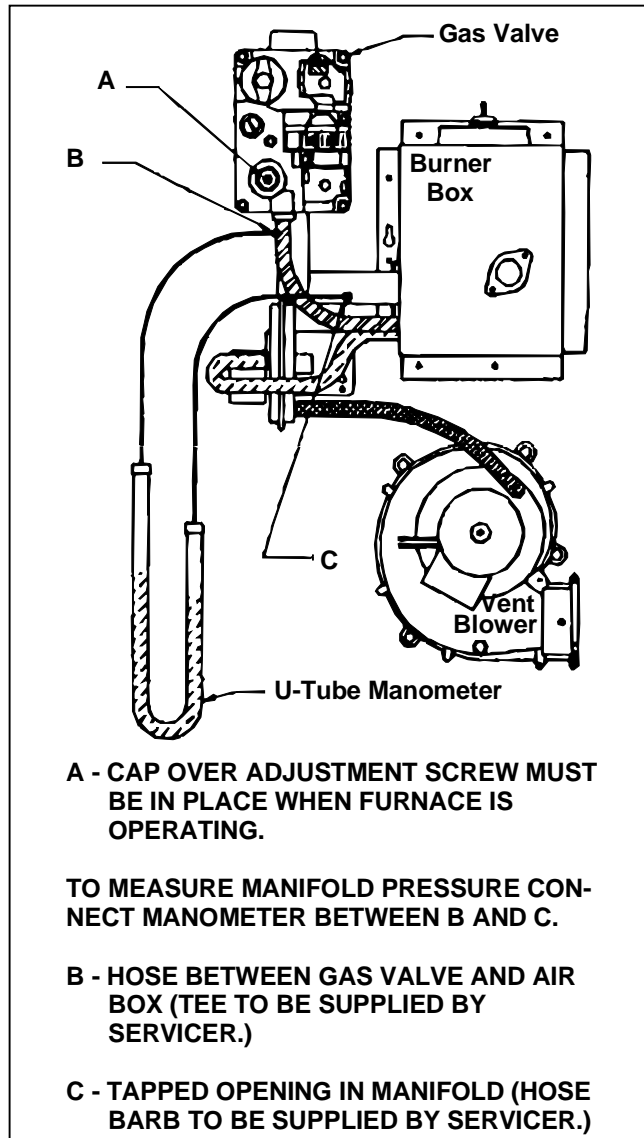

Figure 10
11. On single stage units, set the manifold pressure to 10.0" W.C. (water column). For direct vent (GUD, GCD) furnaces, see "Setting GUD and GCD Manifold Pressure" before setting pressure (Figure 10).
A tapped opening is provided in the gas manifold (Figure 10) to facilitate measurement of the manifold pressure. A "U" tube manometer having a scale range from 0" to 12" W.C. should be used for this measurement. The manifold pressure must be measured with the burners operating and with the shield and air box front cover in place. Adjustment screw cover must be in place when furnace is operating. Be certain the grommet around the manifold tightly seals the air box.
To prevent death or personal injury due to carbon monoxide, all hoses must be connected as shown in Figure 10. Failure to connect the hose between the pressure switch and the burner box could result in excessive generation of carbon monoxide.